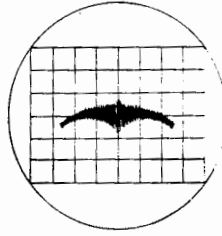

Fig. 9
- (d) With ST1000 Tuner and marker at 90MHz, reduce ST1000 sweep width to 200KHz and confirm the marker is centred accurately as in fig. 9. Marker may then be switched off.